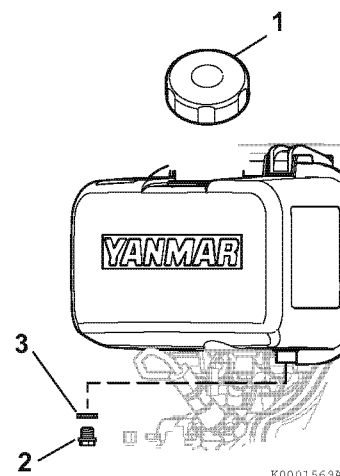

Figure 10
2. Remove the fuel cap (1, **Figure 10**).
3. Remove the fuel tank drain plug (2, **Figure 10**) and gasket (3, **Figure 10**) to drain the fuel.
9. Tighten the fuel tank drain plug (2, **Figure 10**) with new gasket (3, **Figure 10**).
10. Refill fuel tank. Replace the fuel cap (1, **Figure 10**) and hand tighten. Overtightening the fuel cap will damage it.